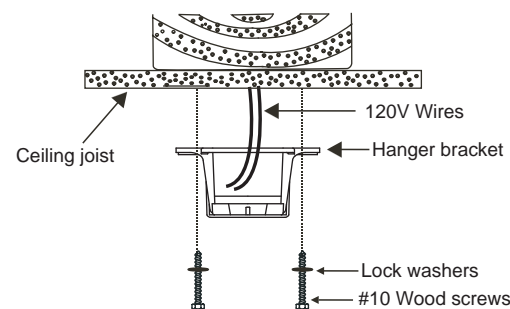

Fig. 7
**Step 4A.** Secure mounting bracket directly to a joist from the building structure. Use only the appropriate wood screws lock washers included with your fan. **(Fig. 7) NOTE: THIS STEP IS ONLY FOR CANADA.**
**CAUTION!** THE HANGER BRACKET MUST BE INSTALLED DIRECTLY TO THE BUILDING JOIST USING THE TWO WOOD SCREWS AND WASHERS PROVIDED. **(Fig. 7)**